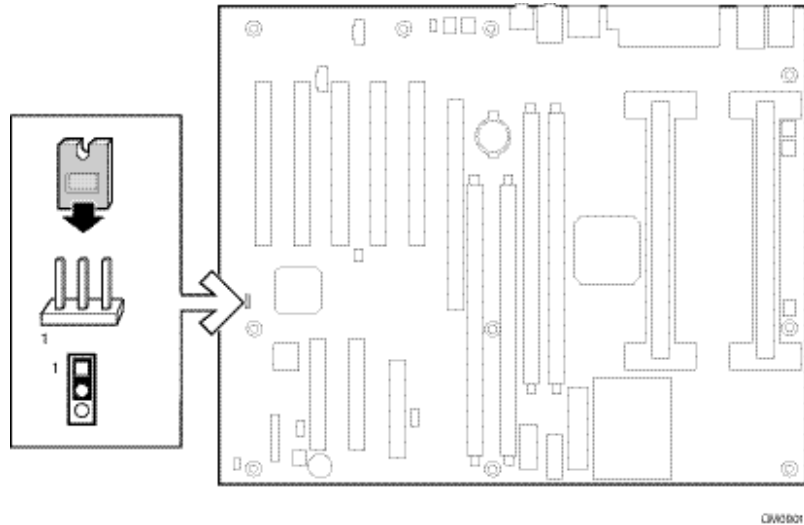

Figure 7. Location of Configuration Mode Jumper
- The Workstation Board has one- (1) jumper block.
- Figure 7 shows the location of the board's jumper block.
- Figure 7 describes the jumper settings for the three modes: normal, configure, and recovery.
4. Remove the computer cover. Locate the configuration jumper block (See Figure 7).